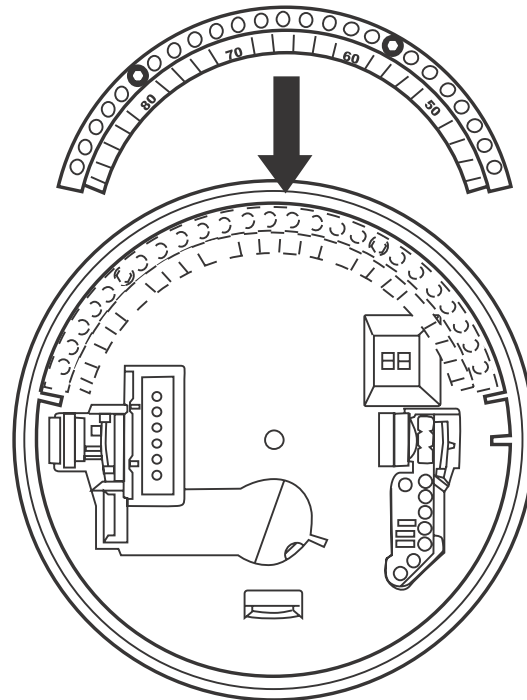

Fig. 3. Aligning range stop with thermostat.
3. On the back of the thermostat, align the range stop with the holes on the back of the thermostat. See Fig. 3.